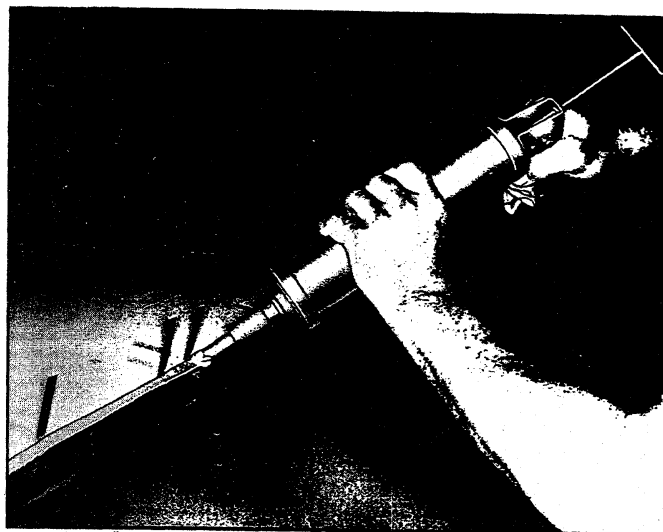

Fig. 91—Applying Sealer to Weatherstrip
10. Apply a band of sealer in groove formed by weatherstrip and edge of window opening as shown in Figure 91.